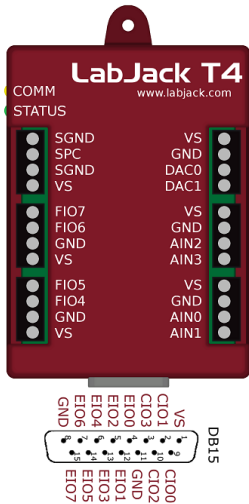

Figure 4.1-1. LabJack T4
- **Communication Edge:** The communication edge (top edge in Figure 4.1-1) has a USB Type-B connector and an RJ45 Ethernet connector. Power is always provided through the USB connector, even if USB communication is not used.